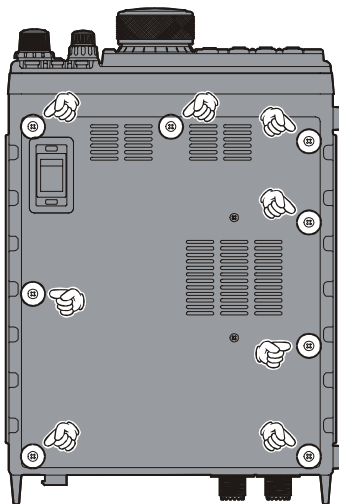

Figure 1
2. Referring to Figure 1, remove the eight screws affixing the top cover of the transceiver then disconnect the speaker's connector from the MAIN Unit.